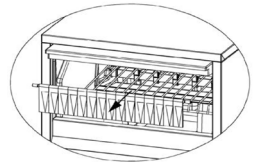

Fig 1
1. Add cleaner fluid to water box (remove plastic ice curtain and pour liquid through metal grill) (Fig 1).